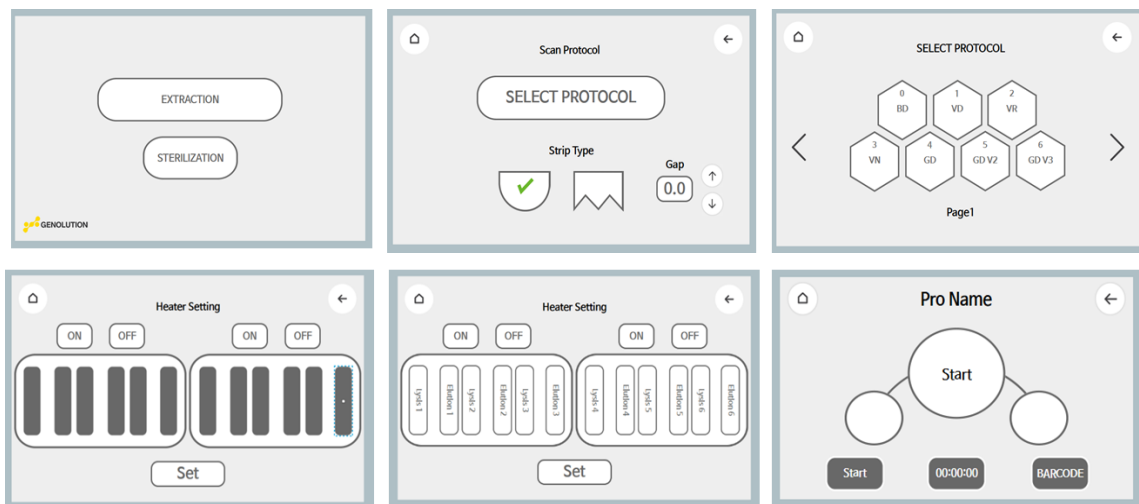

Figure 9: Protocol setting screens
- Select Extraction → Select Round Strip Type → Select Protocol → Select SD → Touch the On / OFF button to select the heating region for the left and right plate loader → Press the Set button to complete the setting → START (Figure 9)